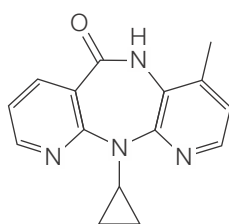

Figure 25.34 Nevirapine, a non-nucleotide reverse transcriptase inhibitor for the treatment of HIV infection
- Inhibiting the action of reverse transcriptase present in retroviruses, for example HIV (Figure 25.34).